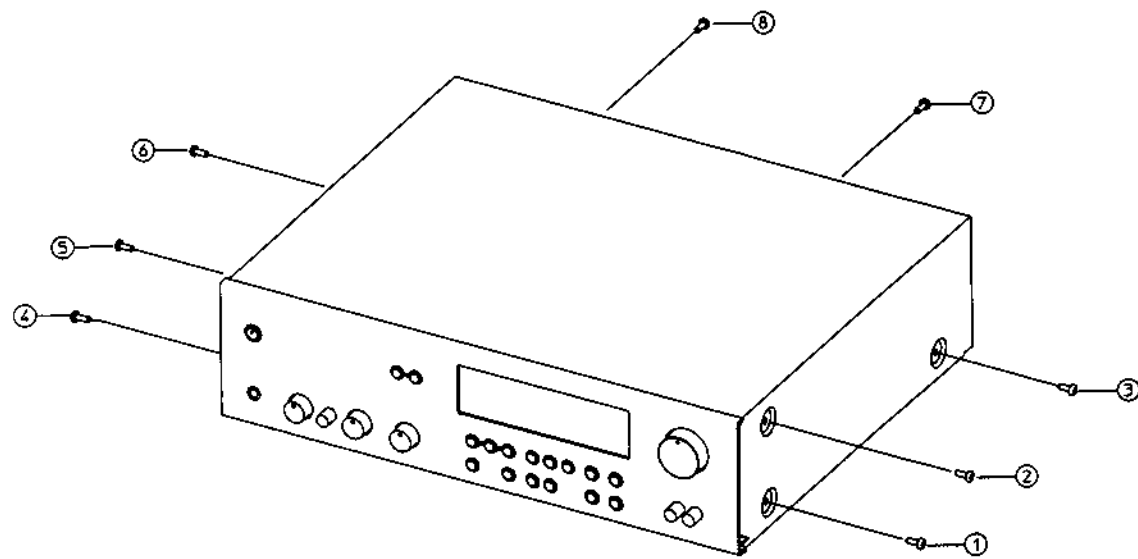

Figure No. 1.
- Remove machine screws M4.0 x 6.0 (① to ⑥) from the side panels. Remove tapping screw 3.0 x 8.0 (⑦ and ⑧) from the back panel. Refer to **Figure No. 1**.